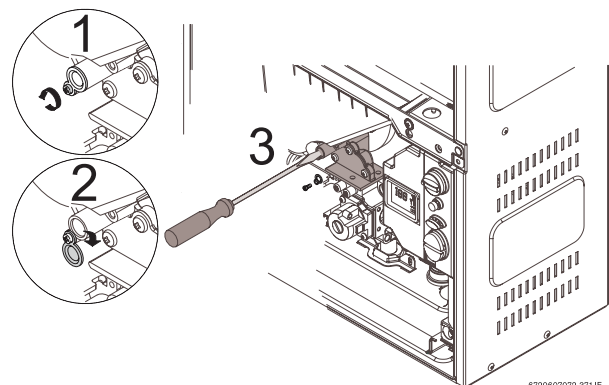

Fig. 42 Adjusting P1 CO₂ level
- ▶ Loosen yellow painted philips screw (1) and cover should rotate down (2) revealing a recessed brass slotted screw. Fig. 42.